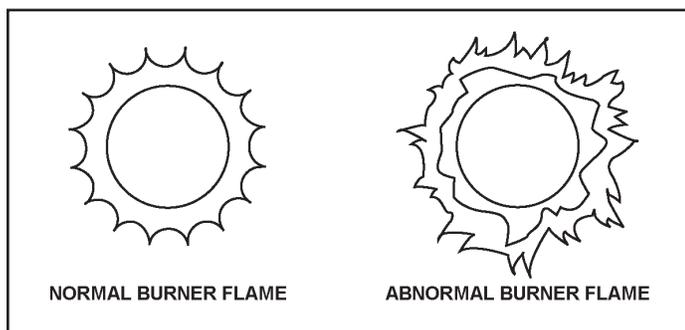

FIGURE 5. BURNER FLAMES
This is a pre-mix burner system. The flame is not supposed to be directly on the burner. The flame should be just above the burner deck approximately 1/8” and blue in color, see Figure 5.
Visually check flame characteristics through the view port located on the top head of the boiler. Figure 5 shows the normal flame condition.
- Cause no excessive lifting of flame from burner ports, see Figure 5.